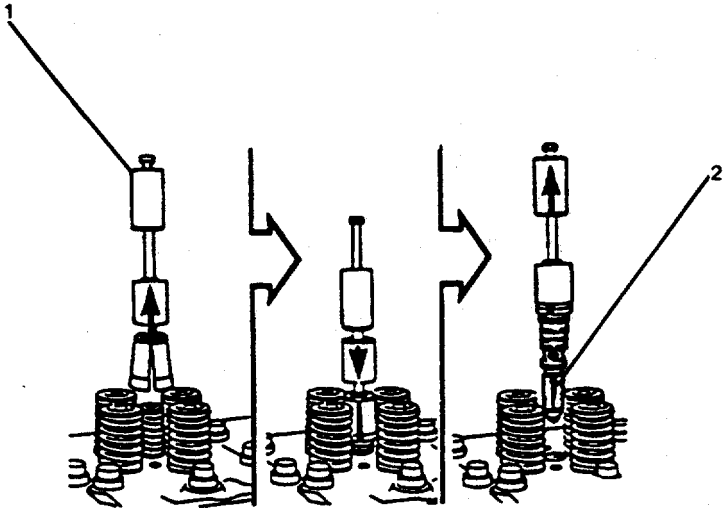

FIGURE 2-50. *Injector Removal Tool.*
- b. Remove injector damp (2).
- c. Remove injector plunger link (3).
- d. Use injector puller (1, FIG. 2-50) to remove injector (2).